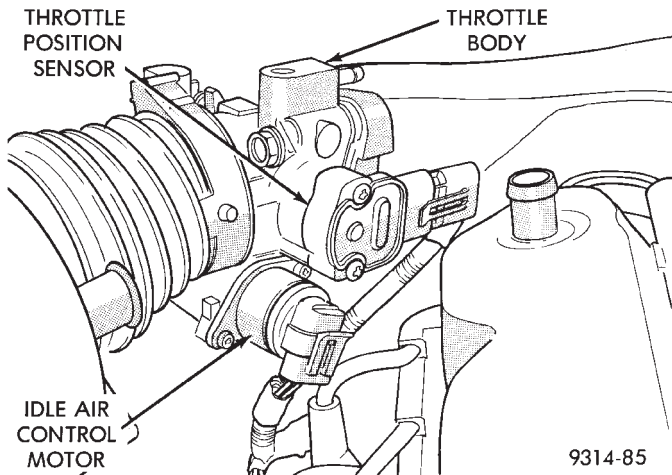
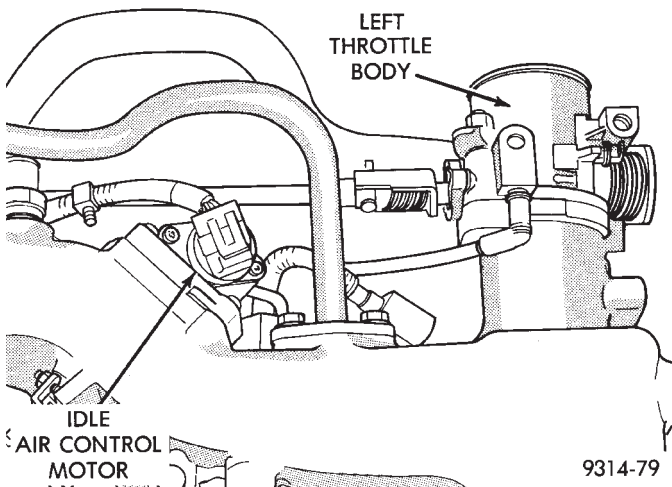
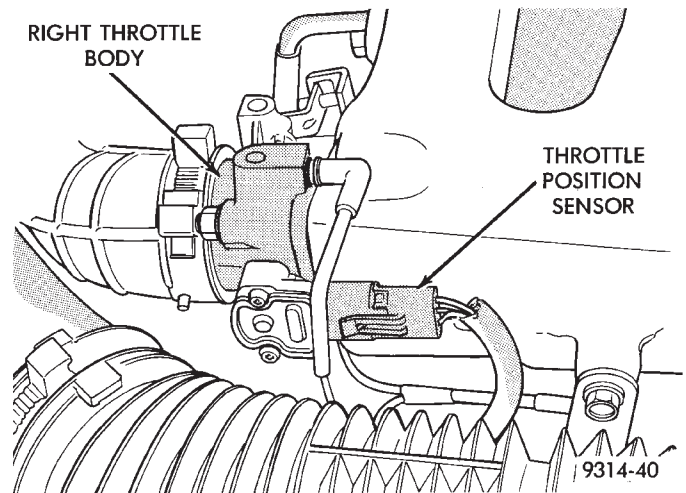

Fig. 5 Idle Air Control Motor—3.3L Engine
Fig. 6 Idle Air Control Motor—3.5L Engine
Fig. 7 Throttle Position Sensor—3.5L Engine
(4) Ensure spark plug cables are firmly connected in the correct order to the coil pack and spark plugs.
(5) Ensure the electrical connector is completely attached to the idle air control motor (Fig. 5 or Fig. 6).
(6) Ensure electrical connector is attached to the throttle position sensor (Fig. 5 or Fig. 7).